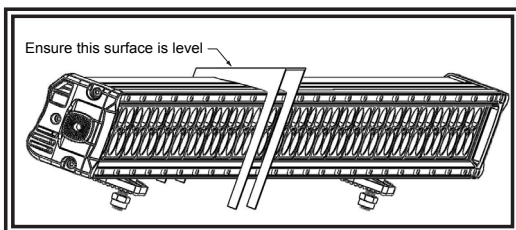

Figure 2
3. With the vehicle on a level surface, place the included cardboard cutout over the lightbar and angle the lightbar on the mounting brackets until the top surface of the cardboard is level as shown in FIGURE 2. This ensures the light output angle of the safety director and worklight LEDs is optimized.
- 3. With the vehicle on a level surface, place the included cardboard cutout over the lightbar and angle the lightbar on the mounting brackets until the top surface of the cardboard is level as shown in FIGURE 2. This ensures the light angle of the safety director and worklight LEDs is optimized.